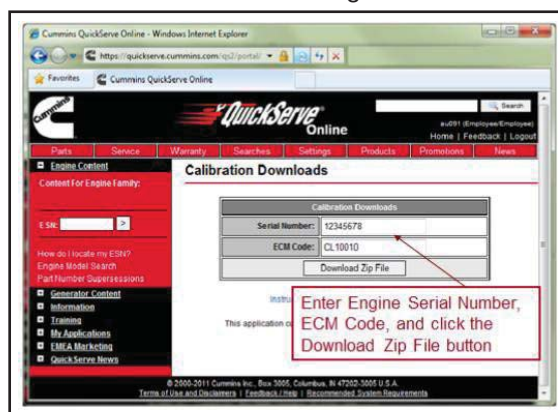

Figure 4 - Entering Engine Serial Number and ECM Code
- 1.4. Enter the engine serial number and ECM code. See Figure 4.